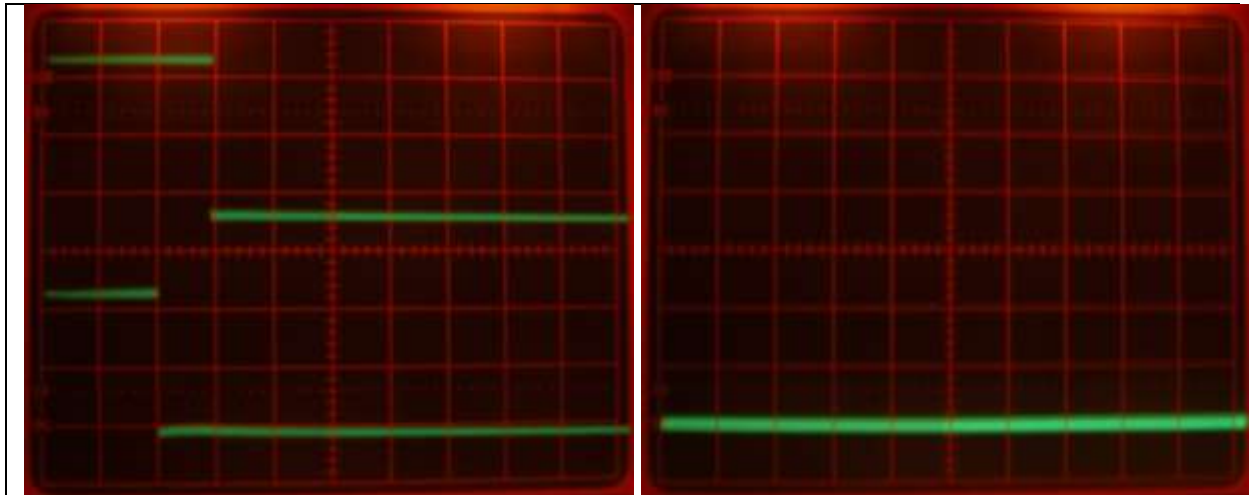
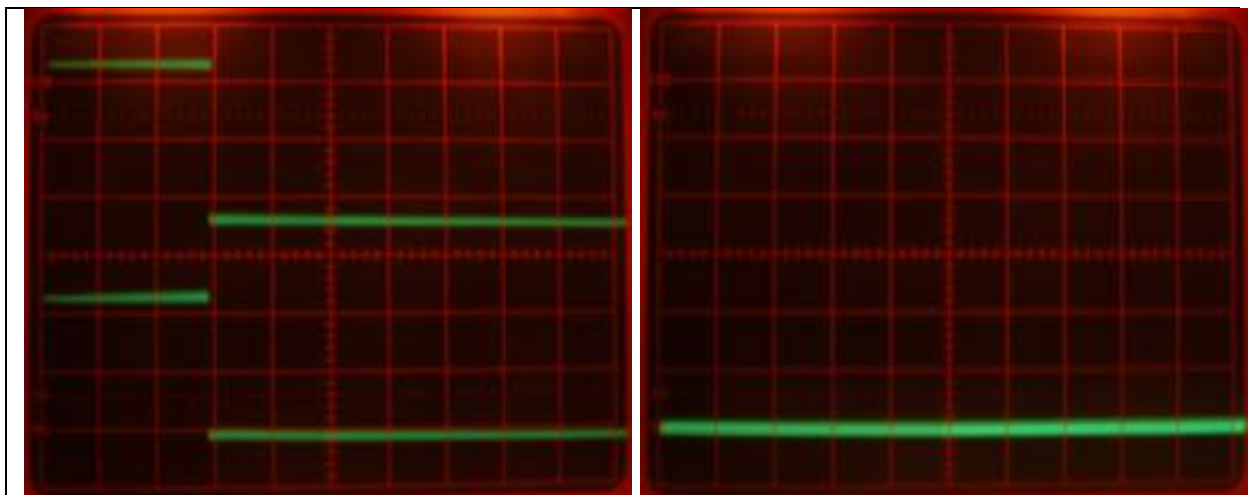
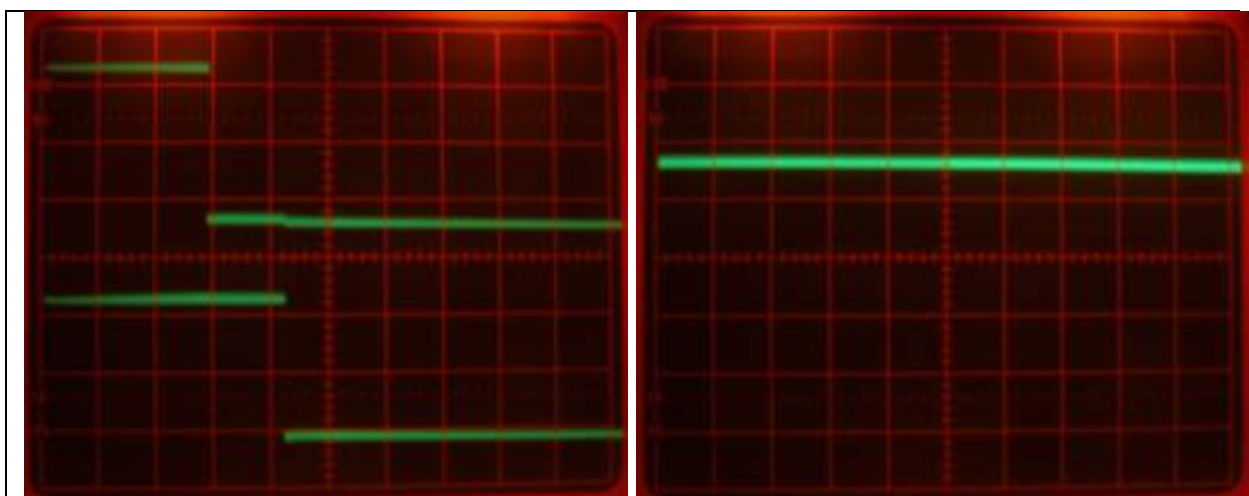

Fig 67a Internal pulse & RC Input Pulse
Fig 68a Internal pulse & RC Input Pulse
Fig 69a Internal pulse & RC Input Pulse
We will now look at the operation of an Electronic switch. This particular switch operates by comparing its own internally generated pulse with that of the incoming Radio Controlled pulse. In **Fig 67a/b** the upper (longer) waveform is that of the internal pulse and the lower (shorter) waveform is the incoming RC pulse. In this state the output of the integrated circuit (IC) is at a low (switched off) and thus the output drive transistor is also switched off. In **Fig 68a/b** the Lower RC pulse is still just shorter than the fixed pulse and therefore the output is still switched off. In **Fig 69a/b** the lower pulse is now longer than the internally generated one which results